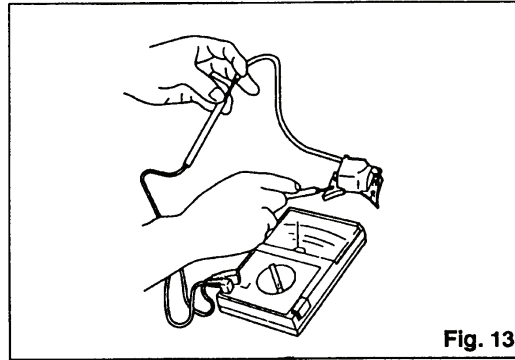

Fig. 13
- If the resistance is not within the Technical Data, replace ignition coil. Fig. 13